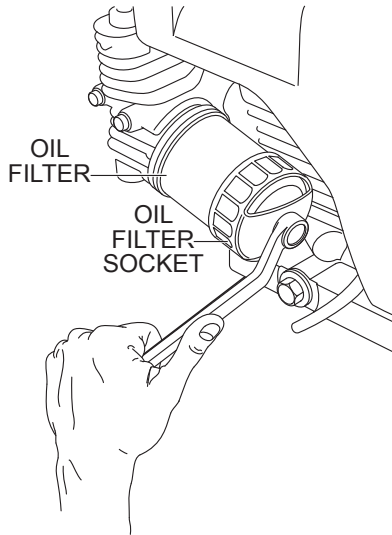

Figure 34. Oil Filter Removal
3. Use an oil filter socket tool and remove oil filter as shown in Figure 34.